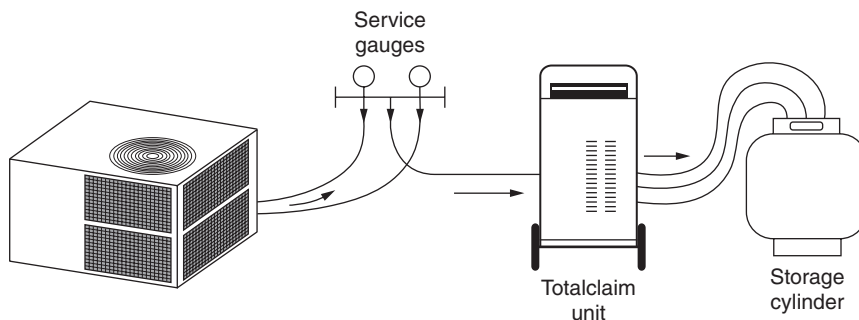

Fig. 6-8 Recovery operations. (Carrier)
In recovery operations (Fig. 6-8) refrigerant is extracted from an air-conditioning or refrigeration system and temporarily stored in the TOTALCLAIM storage cylinder. In *recovery* mode, the target system is evacuated to a pressure less than zero (0) psig. In *recovery plus* mode, the target is evacuated to a negative pressure of approximately 20 in. Hg (4 psia).